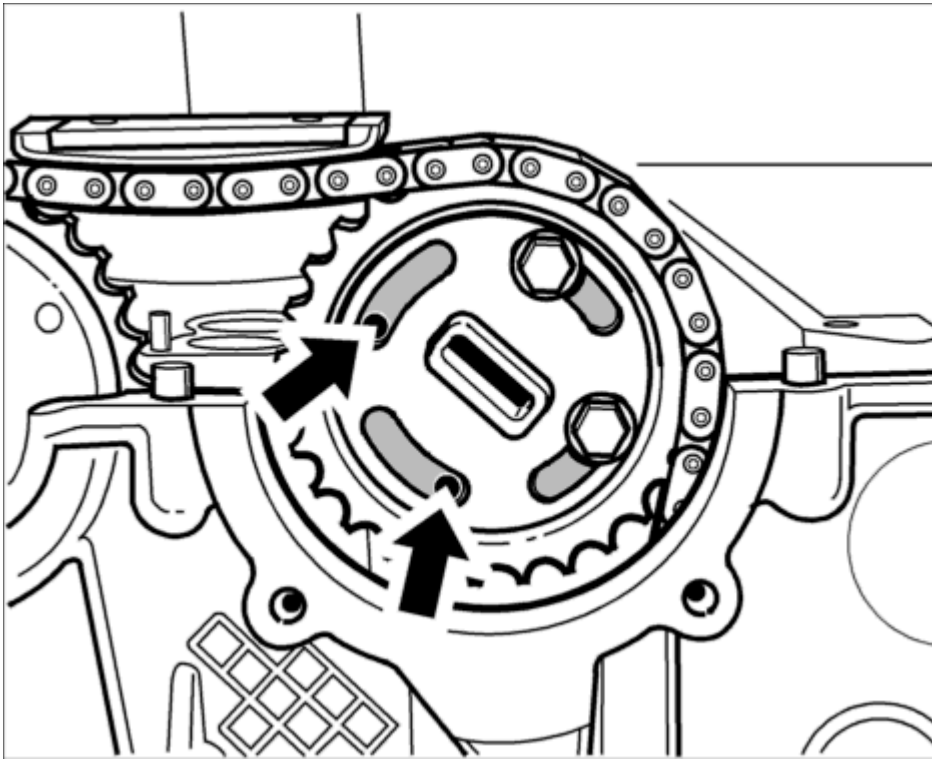

Fig. 42: Exhaust sprocket 1 - 3 at 60° before TDC
28. Insert exhaust camshaft sprocket in the timing chain and position on camshaft flange. The four threaded bores in the camshaft flange must be fully visible **on the left at the slotted curves of the sprocket -arrows-** so that the M6 x 12 Torx screws can still be positioned to fasten the sprocket. See **Fig. 42**.